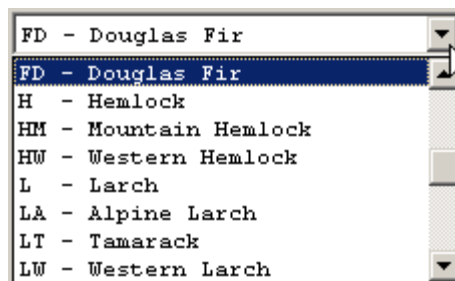

Figure 3-4: Available Species List
2. A selection of all available species will be displayed as in Figure 3-4. Use the arrow keys or the scroll bars to select the species you wish.